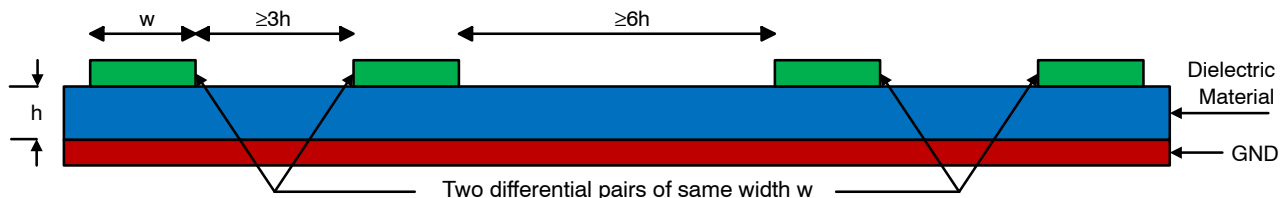

Figure 5. Distances that Need to be Maintained between the Traces
- Keep the distance between the differential pair traces equal over the entire trace length. Keep the distance between the differential traces at least thrice the dielectric height for lower reflection noise. Ensure the distance between two differential pairs is at least twice that of the distance between the differential traces (or six times the dielectric height). Refer Figure 5 indicating the distances.